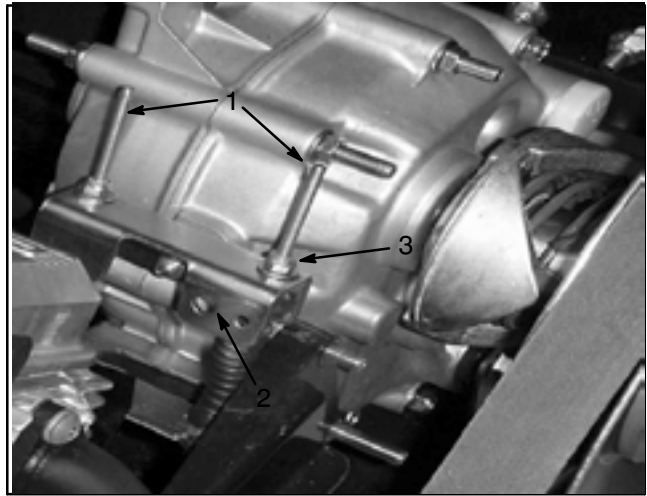

Figure 3
2. On vehicles with a shift lever neutral position (Fig. 3):